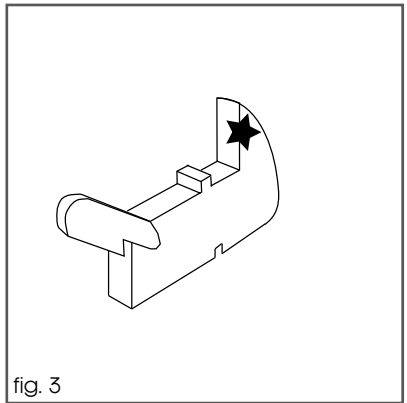

fig. 3
- Hold the door to the appliance in the closed position and manoeuvre the hinges so that the part of the hinge, highlighted by the star in fig. 3, inserts into the hinge slot in the cavity frame.